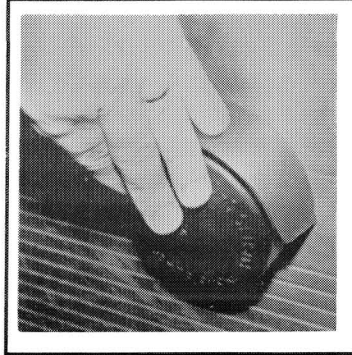

Figure 9
**Choke** - The choke is located below and to the left of the driver's left knee on the seat support panel (See Figure 9). If on a cool morning the vehicle is hard to start, simply push in the choke cover with your left hand to activate the choke. Release the choke after the engine starts and runs smoothly.